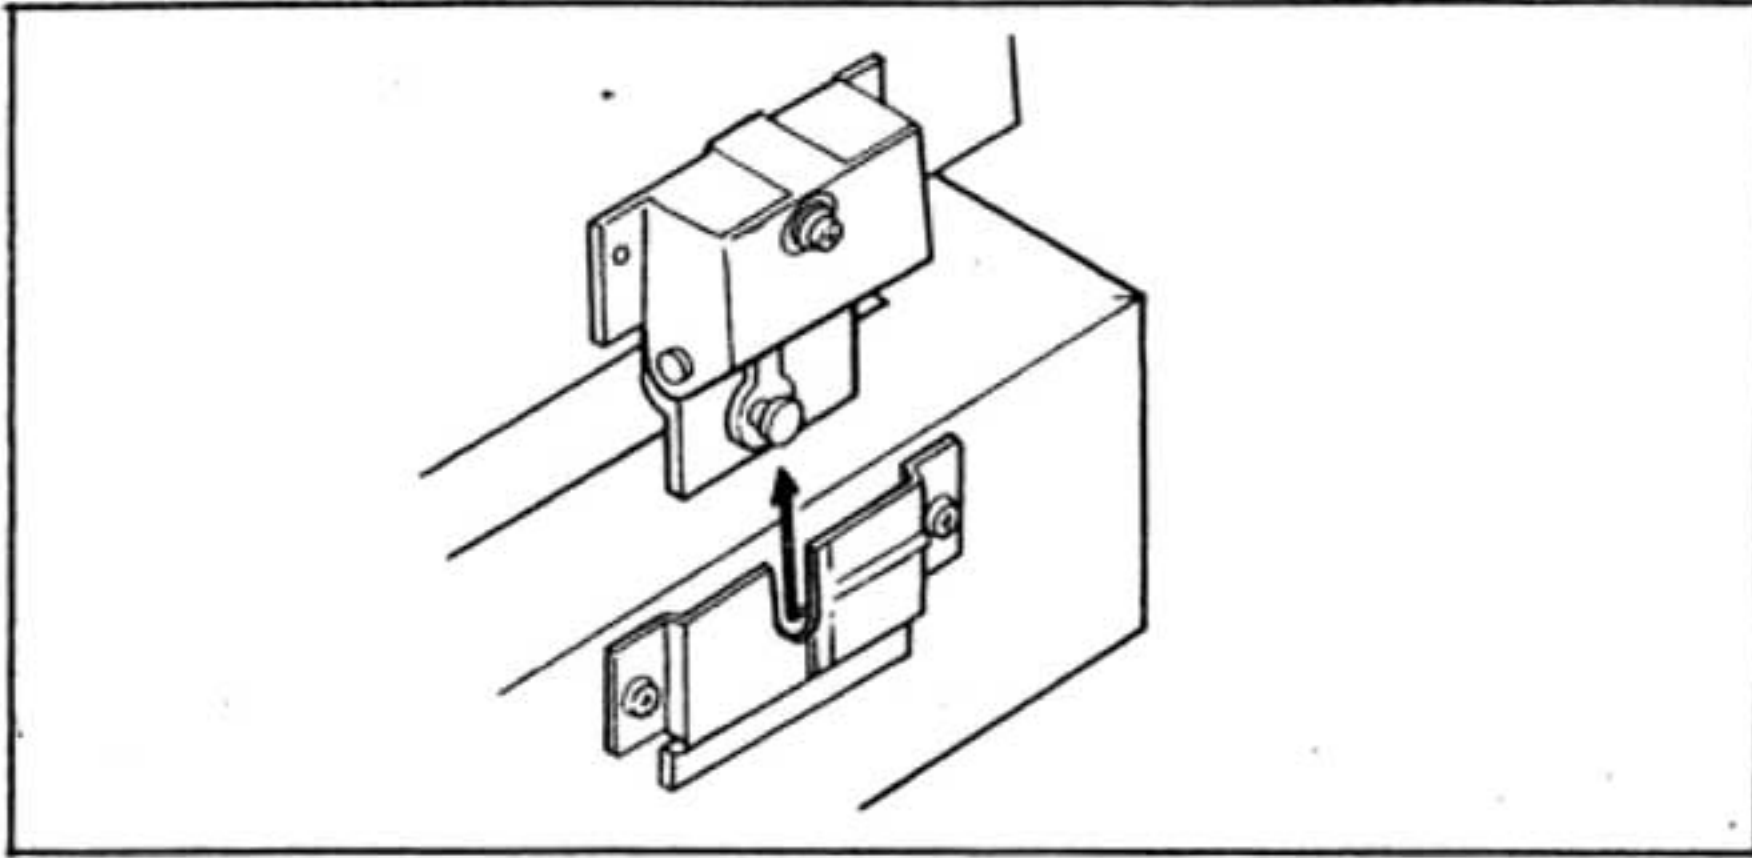

Fig. 2-1. Top cover removal
1. Open the top cover, and then carefully lift the top cover straight up as shown in Fig. 2-1.